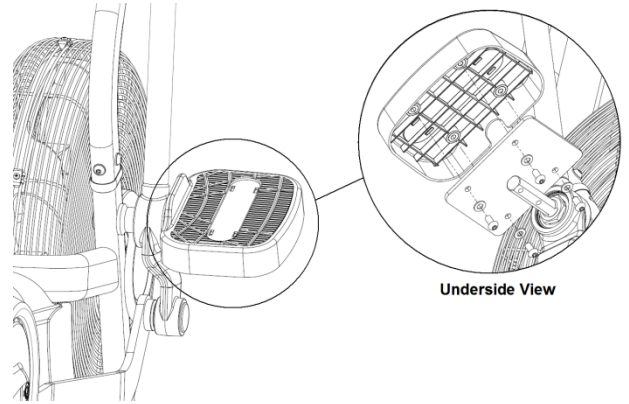

Fig. 13
12. Mount the left & right foot stand mounting plate (Fig. 13) onto the arm pivot shafts and secure them in place by bolting the respective button head cap screws thru the center of each plate and into the pivot shafts.